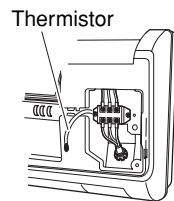

Fig. 17b
- (4) Take out the thermistor from the grille. (Fig. 17b)